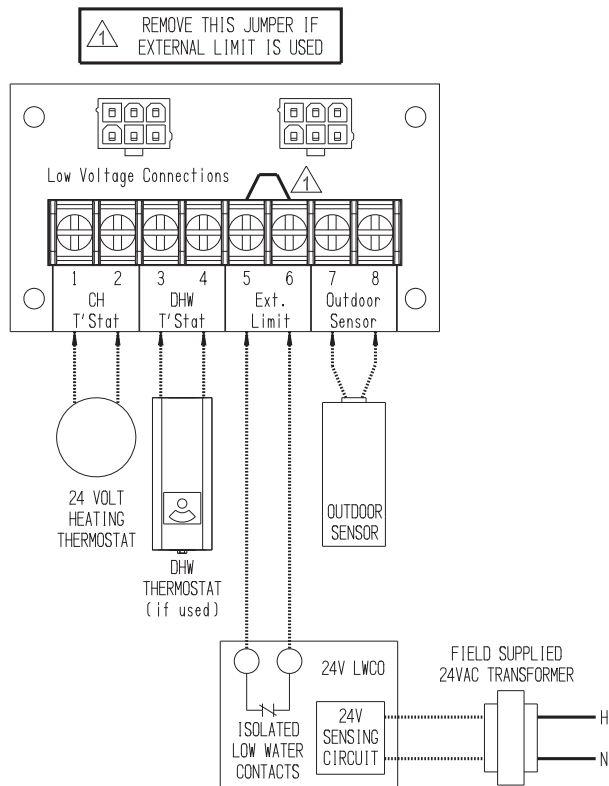

FIGURE 10.4b: 24V LWCO FIELD WIRING
- A 24V LWCO may be wired so that its contacts are wired to the external limit connections on the boiler. When this is done a separate transformer must be supplied by the installer to power the LWCO's sensing circuit. This transformer must be completely isolated from the boiler wiring (Fig 10.4b).